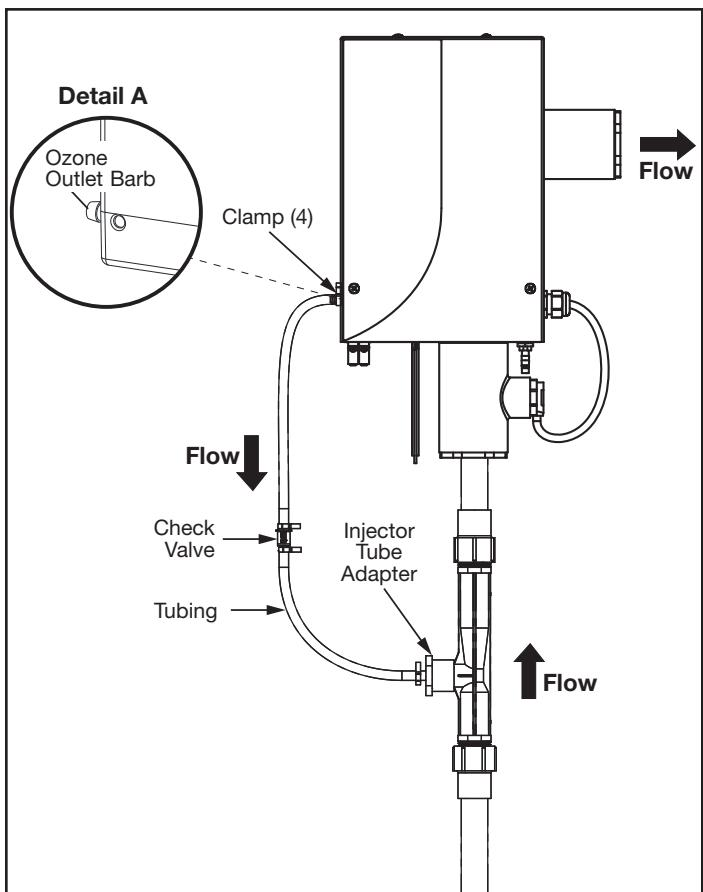

Figure 6. Jandy Offline AOP System Gas Line
2. Remove the Injector Tube Adapter from the Injector (refer to Figure 6) located under the water inlet of the Jandy AOP system.
2. Loosen the tubing clamps on both ends of the ozone gas line. Remove the tubing assembly from the ozone outlet barb at the left side of the housing and the barb of injector tube adapter. See Figure 6 Detail A.
3. Orient ozone gas line as shown in Figure 6 (**note flow direction callout**), ensuring the gas flows towards the injector manifold. Re-connect onto the air barbs of the ozone outlet and the injector tube adapter. Hand tighten the clamps.